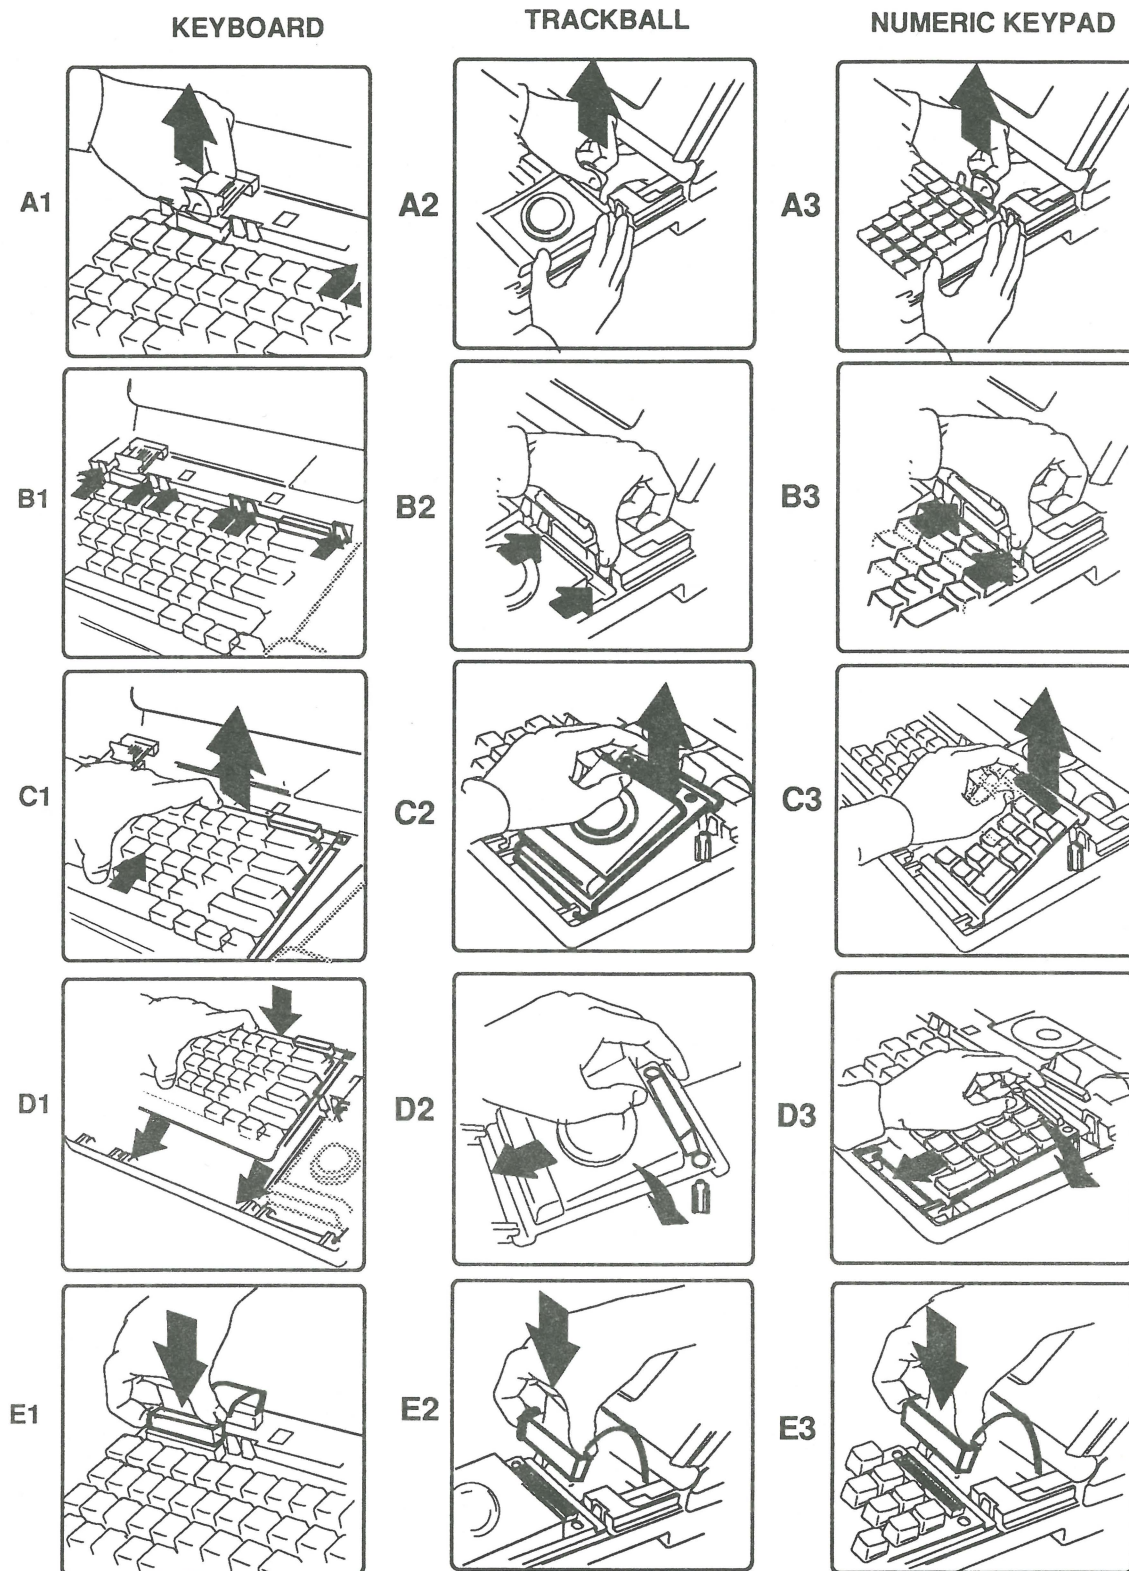

FIGURE 9
2. **Figures 9-A1, 9-A2, and 9-A3.** Disconnect the flat cable from the device to be removed. The figures show the cable locations.
3. **Figures 9-B1, 9-B2, and 9B-3.** Starting at one side of the device, simultaneously press back on each plastic tab securing the device to the case and lift the device. The figures show the tab locations.
4. **Figures 9-C1, 9-C2, and 9-C3.** After all the tabs have been released, remove the device from the computer.